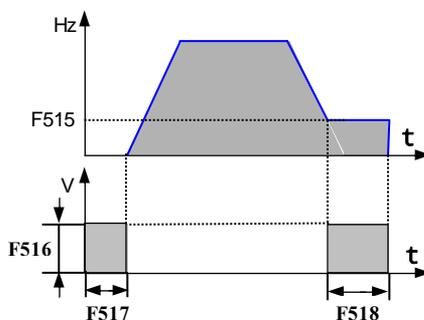

Fig 9-2 DC Braking
- Refer to Fig 9-2 for DC braking process.